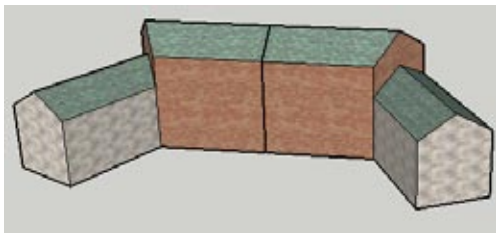

Figure 7-35
4. Attach the mirrored half to the original half. The two halves appear to be separate objects because of the edges between the components (Figure 7-35).